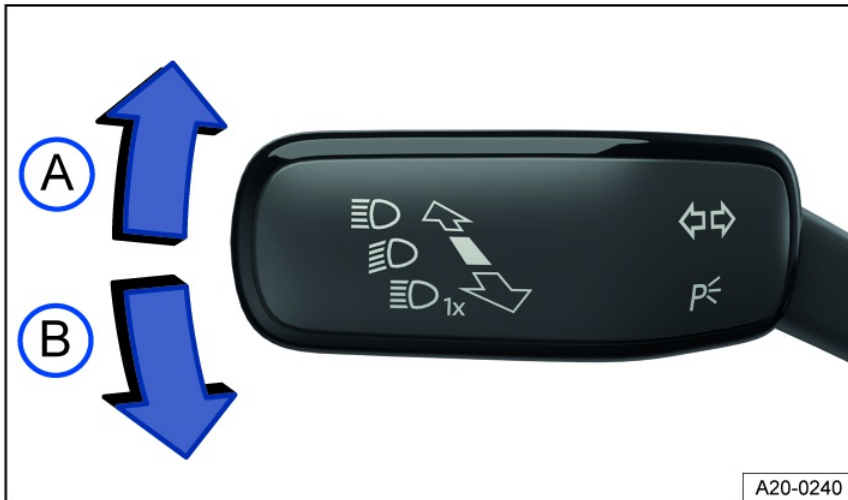

Fig. 93 On the left side of the steering column: turn signal and high beam lever.
2. Move the turn signal and high beam lever from the center position to the preferred position fig. 93.